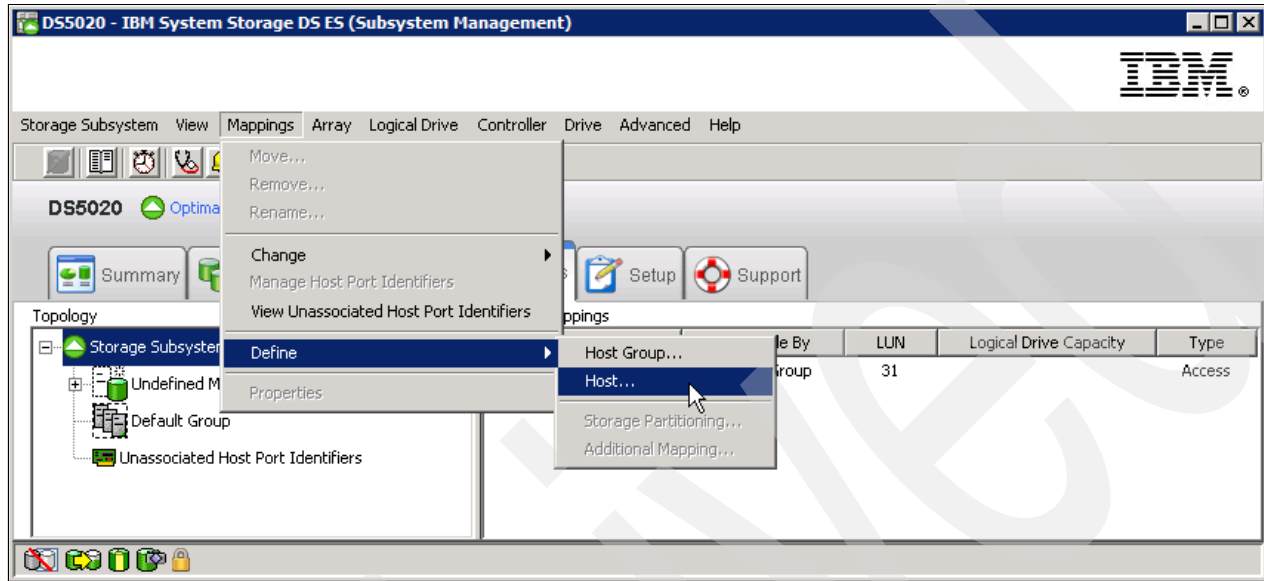

Figure 4-68 Selecting Define Host
1. Right-click your storage subsystem and select **Define** → **Host**, as shown in Figure 4-68. Even with no host group created, it is easier to create the hosts first and then the host groups.